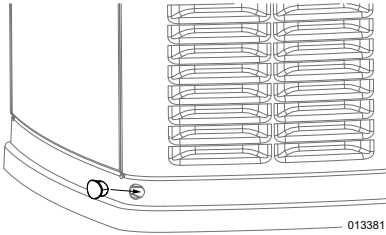

Figure 4-1. Installing Base Plugs
3. See Figure 4-1. Install base plugs into generator base.